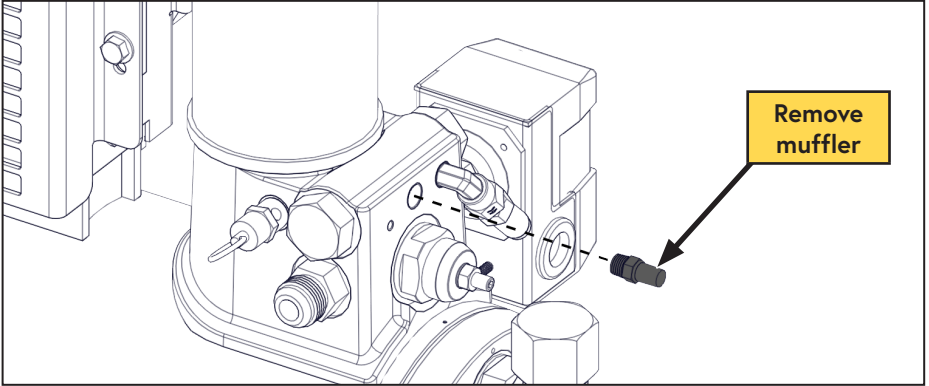

Figure 46 — Remove blowdown muffler
- Remove the blowdown muffler from the side of the WHASP Tank (below the coalescing filter) (Figure 46).